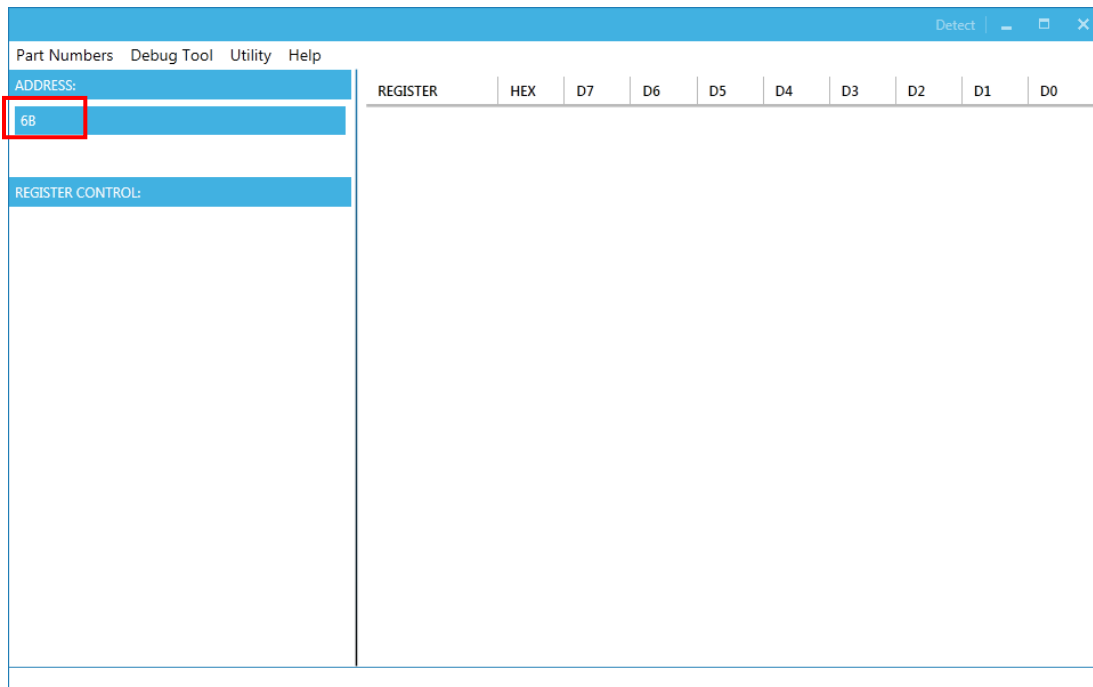

Figure 7: Appearance of Address Showing Successful Connection
- If the connection is successful, the address will be listed in the “Slave Address” (see Figure 7).